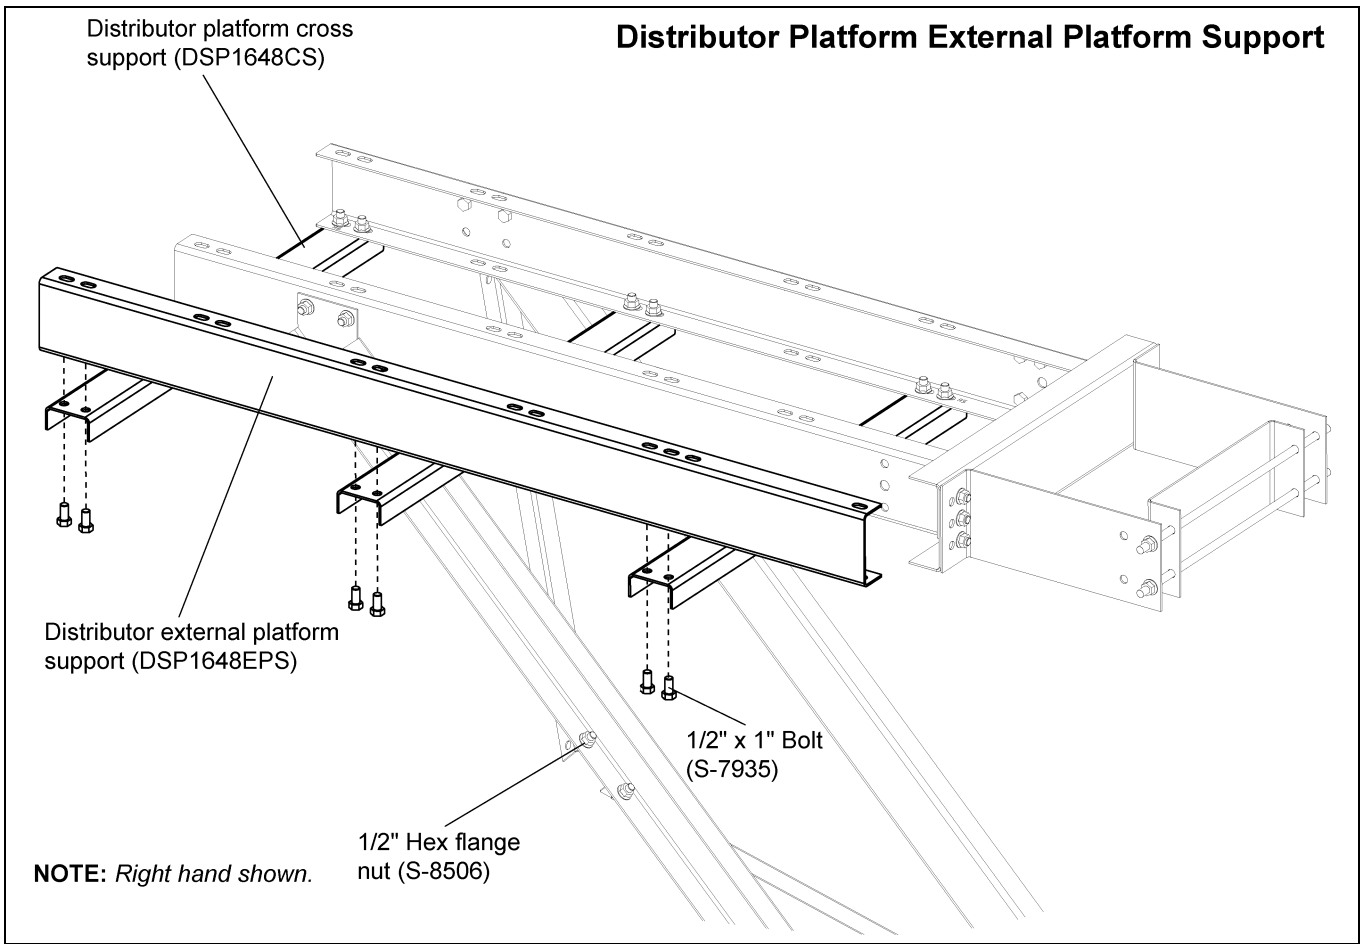

Figure 12C Distributor External Platform Support
3. Assemble the external platform support (DSP1648EPS) to the end of the three (3) cross supports using six (6) 1/2" x 1" bolts and nuts. *(See Figure 12C on Page 95.)*